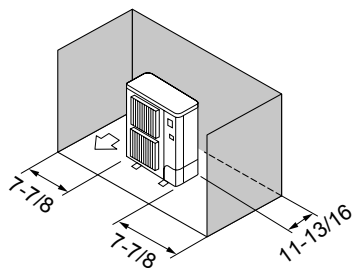

Fig. 2-8
- ③ Obstacles at rear and sides only (Fig. 2-8)